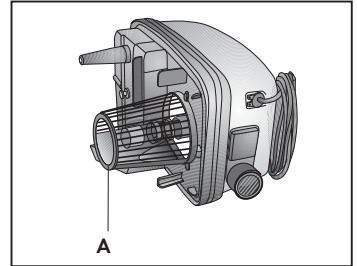

Fig. 20
- Empty the recovery tank (2).
- Activate the vacuum function using the vacuum button (18) and draw water through the accessories previously used for cleaning.
- Empty the recovery tank (2) and repeat the operation as necessary.
Every time the bottom part of the appliance is cleaned, clean any solid residues off the outside of filter (A) **(Fig. 20)**.